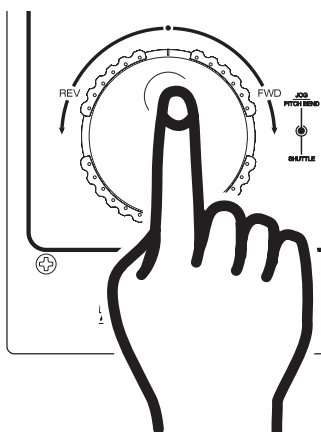

Figure 17
**Adjusting the Pitch Slider's Range (21):** You may change the *PITCH SLIDER'S* (23) operating range. To change the operating range be sure the pitch function is turned on, see figure 17. The pitch percentage can be changed between  $\pm 8\%$ ,  $\pm 12\%$ , and  $\pm 16\%$ .  $\pm 8\%$  will allow the least amount of pitch manipulation and  $\pm 16\%$  will allow the most amount of pitch manipulation. To adjust to the different values tap the *P.SELECT BUTTON* (8). The LED beside the *PITCH BUTTON* (7) will indicate which pitch percentage mode the unit is operating in. Glowing green for  $\pm 8\%$ , glowing orange for  $\pm 12\%$ , or glowing red for  $\pm 16\%$ . Note, the pitch function must be activated to receive a LED reading.